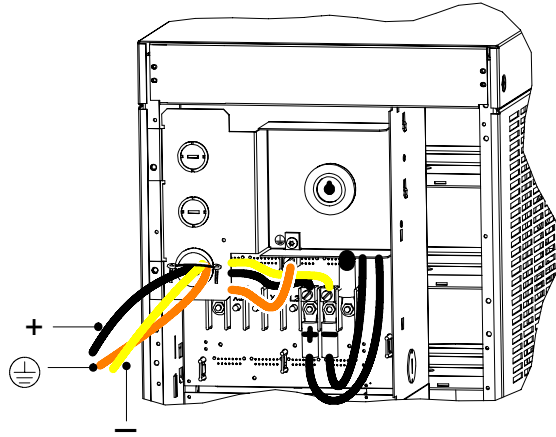

Figure 46. Battery Cable Installed in Battery Cabinet
- 16.** If the battery cable will be installed in flexible or other conduit, pull the conductors through the conduit. Attach the conduit to both the UPS power entrance panel and the battery cabinet entrance panel as shown in Figure 46.
- 17.** Secure the +, the —, and the ⊕ conductors to the proper compression lugs on the battery cabinet backplane as shown in Figure 46. Torque all three compression lugs to 75–85 in lb (8.5–9.6 Nm).